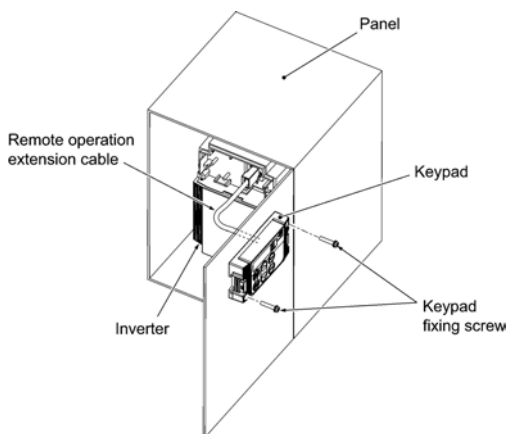

Figure 2.23 Mounting Keypad on the Panel Wall
- Mounting a keypad on the panel wall (Refer to Figure 2.23.)